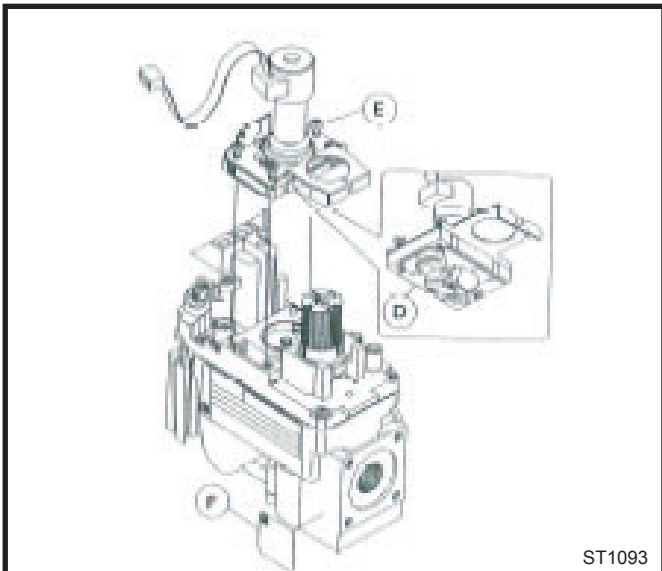

Fig. 76 Remove mounting screws from old pressure regulator assembly. Replace step motor with new conversion step motor.
1. Using the TORX T20 bit remove and discard the three (3) pressure regulator mounting screws from the old pressure regulator assembly. (Fig. 76)
2. Insure the rubber gasket (D) is properly positioned and install the new step motor (E) pressure regulator assembly to the valve using the new screws supplied with the kit. Tighten the screws securely. (Ref. torque = 25 in/lb) (Fig. 76)
3. Install the identification label (F) supplied with the stepper motor to the valve body where it can easily be seen. (Fig. 76)